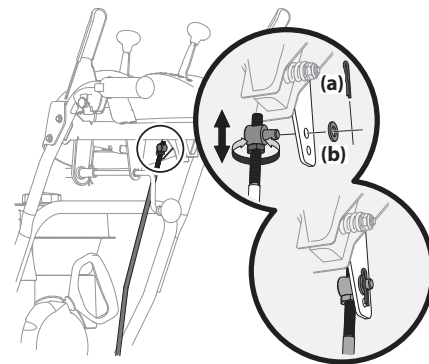

Figure 2-57
- Remove cotter pin (a) and washer (b) from adjustment ferrule on shift rod and pull it out from shift lever. See Figure 2-57.
- Rotate ferrule up or down on shift rod as necessary until it lines up with upper hole in shift lever. Refer to Figure 2-57 inset.